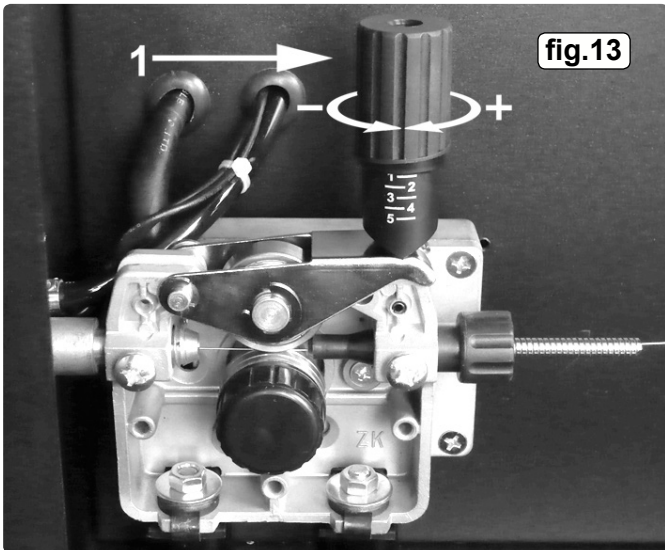

fig.13
- 4.9.3 Push down the pressure roller carrier onto the wire feed roller and hold it down. Lift up the locking/wire tension knob so that it enters the slot in the pressure roller carrier and snaps into the indent in its top surface. See fig.13. Rotate the tension knob to a medium setting i.e. between 2 and 3.
- 4.10. **SETTING WIRE TENSION.** Adjust the wire tension by rotating the wire tension knob. Turn clockwise to increase the tension and anticlockwise to decrease the tension. See (1) in fig.13. **IMPORTANT:** Too little or too much tension will cause problematic wire feed and result in poor welding.